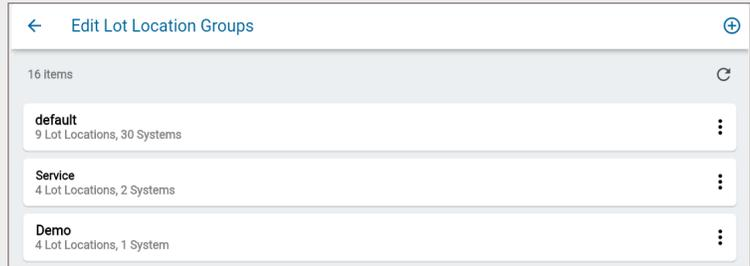

Fig. 246 – List of lot location groups
3. Select the lot location group from the list of lot location groups that appears, as shown in Fig. 246.